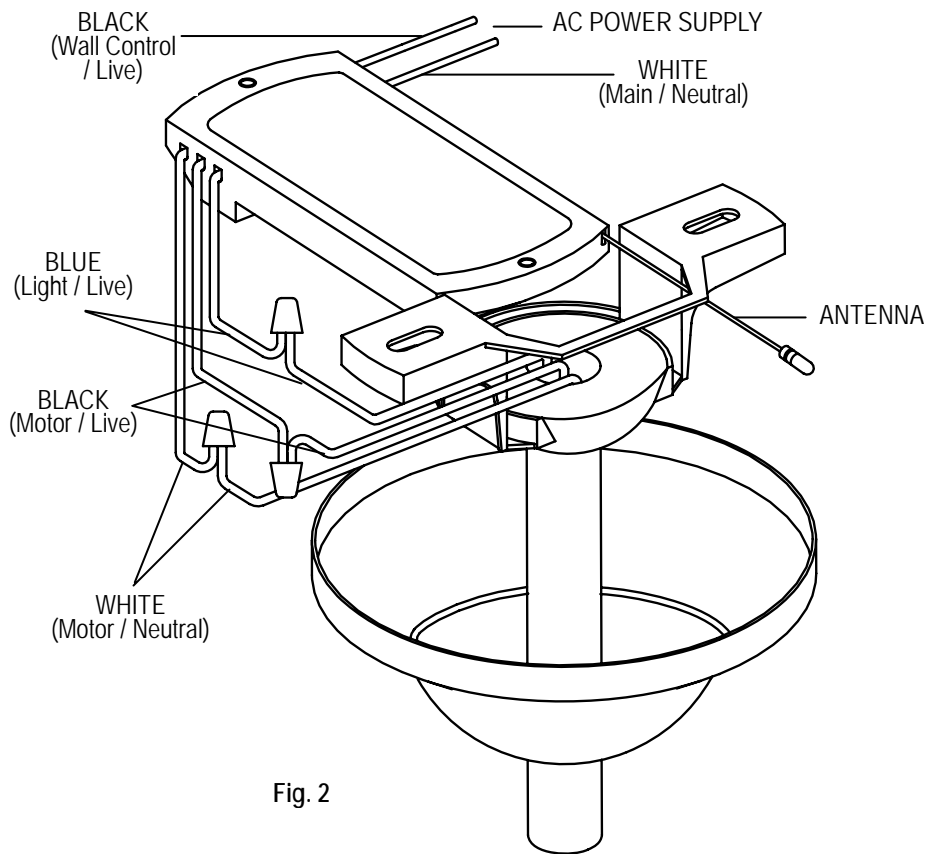

Fig. 2
3. Make wiring connections per Fig. 2 & 3. **CAUTION:** Incorrect wire connection can damage this receiver and could cause injury or fire.